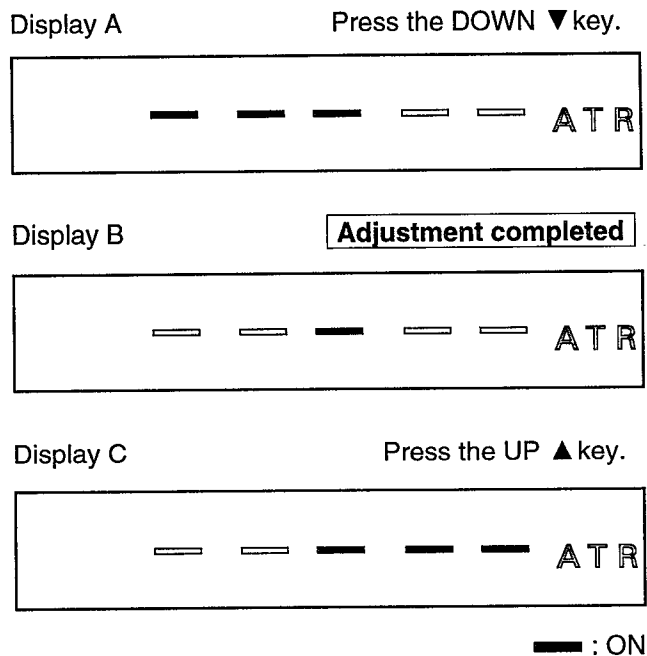

Figure 2
- (1) Playback the test tape and allow the automatic ATR to finish. The ATR is finished when "ATR" on the FIP stops blinking.
- (2) Short the connection between PG ADJ (J227) and GND (J225) on the MAIN PCB as indicated in Figure 1. Then, most of the segments on the FIP, for example, "ATR" goes OFF. See Figure 2 below.
- (3) Adjust the display for FIP (H701) with the CH UP/DOWN (▲/▼) keys until it is as shown in Figure 2 Display B below.
- (4) Clear the TEST POINT short.